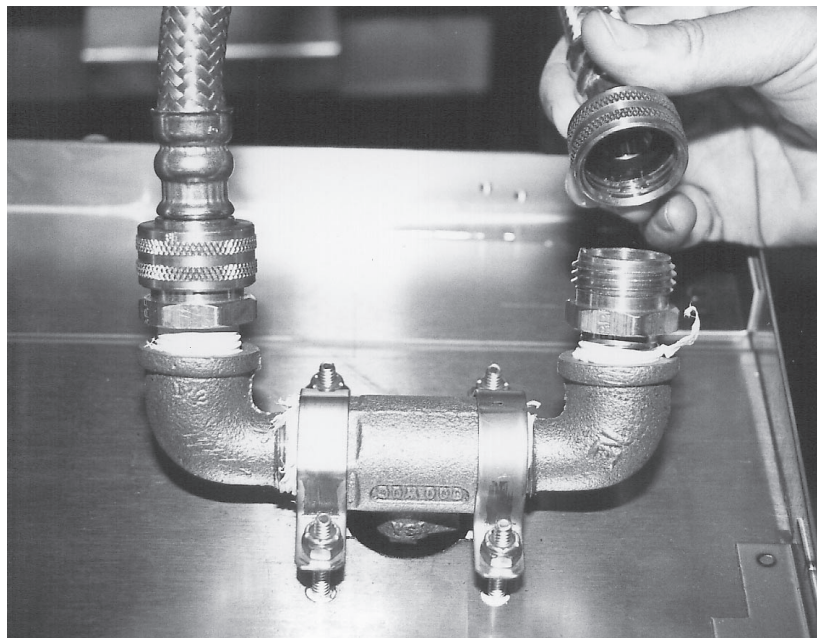

Fig. 15
7. Disconnect the water hoses and remove panel from the rinse station. (Fig. 15)